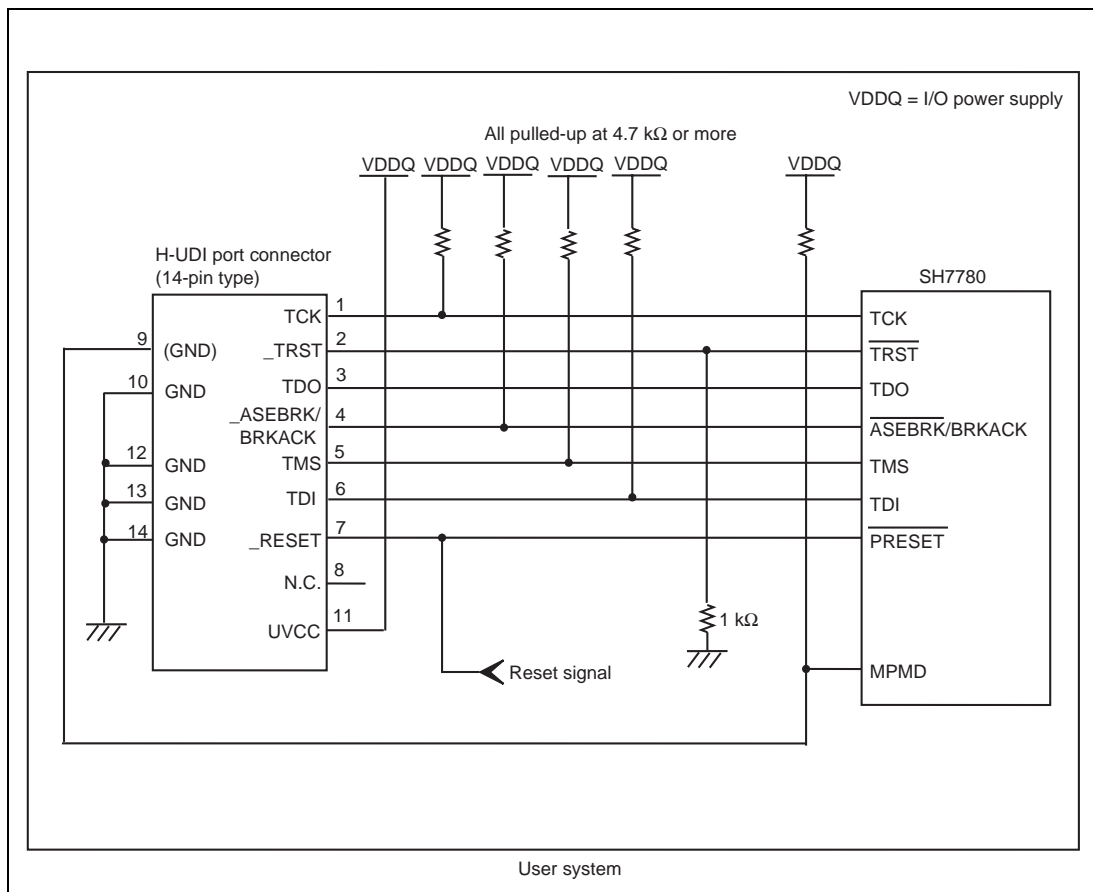

Figure 1.4 Recommended Circuit for Connection between the H-UDI Port Connector and MPU when the Emulator is in Use (14-Pin Type)
Figure 1.4 shows a recommended circuit for connection between the H-UDI and AUD port connectors (14 pins) and the MPU when the emulator is in use.
- (1) When the emulator is used: $MPMD = 0$
- (2) When the emulator is not used: $MPMD = 1$Figure 1.4 shows an example of circuits that allow the MPMD pin to be GND (0) whenever the emulator is connected by using the user system interface cable. When the MPMD pin is changed by switches, etc., ground pin 9. Do not connect this pin to the MPMD pin.
6. The resistance values shown in figure 1.4 are preliminary.
When the circuit is connected as shown in figure 1.4, the switches of the emulator are set as SW2 = 1 and SW3 = 1. For details, refer to section 3.8, Setting the DIP Switches, in the Debugger Part of the SuperH™ Family E10A-USB Emulator User's Manual.